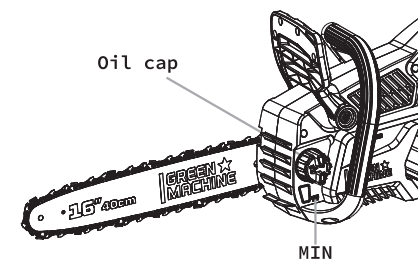

Fig. 2
1. Unscrew the oil cap. (Fig.2)
2. Fill the oil tank with chain oil. The oil level should be above "MIN" limit and below the "MAX" limit. (Fig.2)